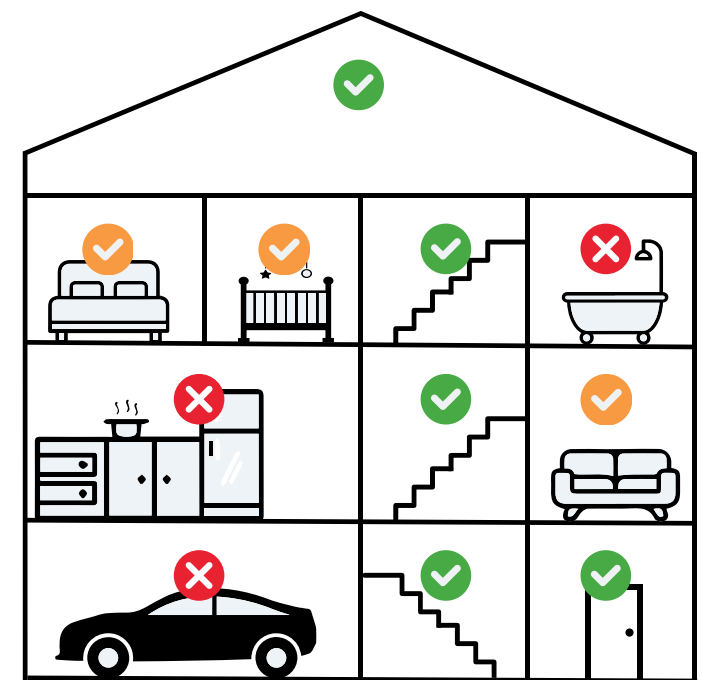

Figure 3: Recommended mounting locations
- Check figure 3, 4 and 5 for correct mounting locations. Most EU countries require smoke detectors on all floors and escape routes.